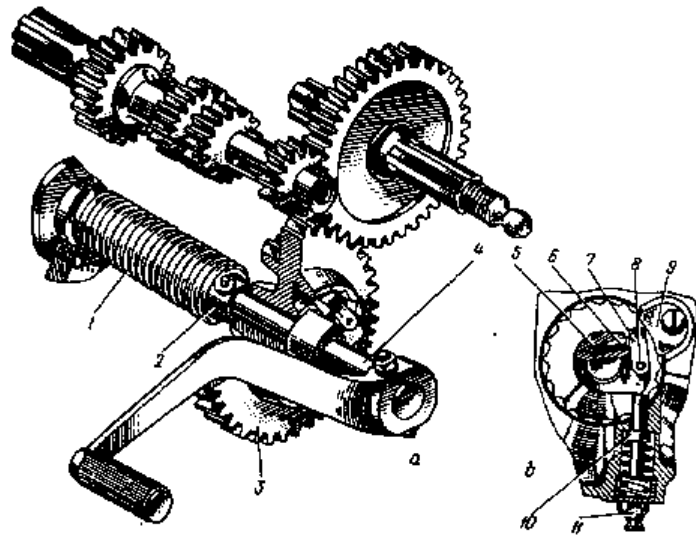

Figure 5.1-5. Gear Shift Mechanism
The gear shift mechanism is illustrated in Fig. 5.1-5. The hand gear change lever on the right may be in five different positions. The foot shift pedal functions the same as the sidecar gearbox. The solo gearbox shift stops are adjusted in the same manner as the sidecar gearbox.
Loosen the locknuts on both of the gear shift adjusting screws (Fig. 5.1-5 and 5.1-6) located at the left rear face of the gearbox. These screws restrict the turn of the pawl crank (Fig. 5.1-5), and consequently, the stroke of the gear shift pedal. A spring loaded ball drops into detents that hold the shift quadrant in position. The upper screw (B) regulates the stroke when shifting down. The lower screw (A) regulates the stroke when shifting up. Proceed as follows: